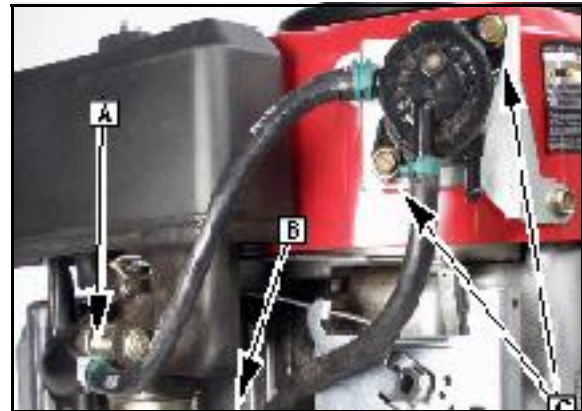

Fig. 21
1. Place gasket, heat shield, gasket, heat riser and another gasket as shown in (Fig.21).
2. Disconnect the clamps at the carburetor fitting ([A] Fig. 21) and the crankcase ([B] Fig. 21).
3. Remove the bolts ([C] Fig. 21) that secure the pump to its mounting bracket.
8. Install fuel pump to its mounting bracket (Refer back to Fig. 21). Torque bolts to values listed.